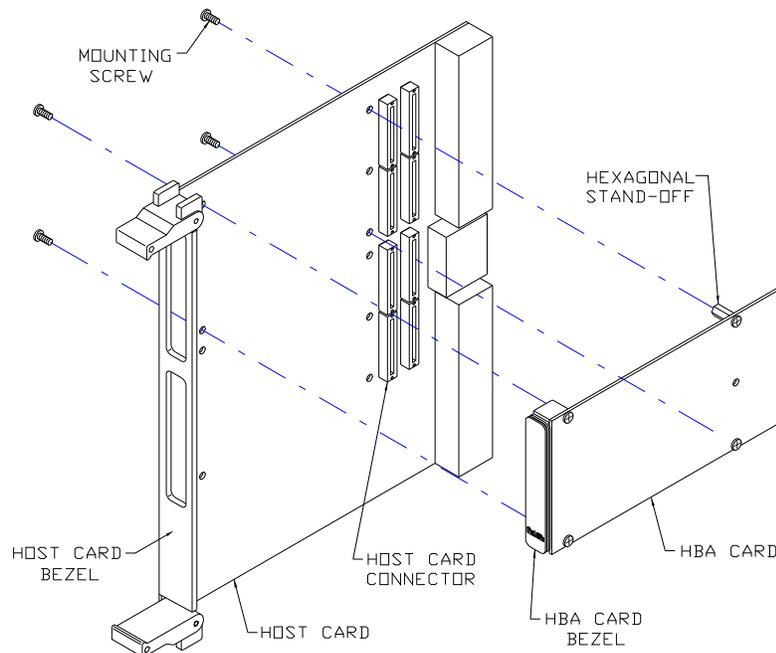

Figure 2: Inserting the Astek Host Adapter on a carrier card
- Step 6. Insert the PMC bezel of the adapter card into the PMC bezel opening on the carrier card. The SAS connectors should fit outside the carrier card where you removed the blank panel (see Figure 2).
- Step 7. Align the PMC connectors on the adapter card with the mating connectors on the carrier card. Firmly press the host adapter into place by applying pressure above the PMC connectors (see Figure 2).
- Step 8. Secure the board with the 4 mounting screws (see Figure 2).